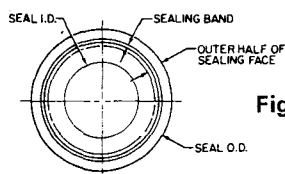

Figure 5
- (b) The sealing band must be uniform in width and must be concentric with the I.D. and O.D. of the sealing face (see Figure 5).